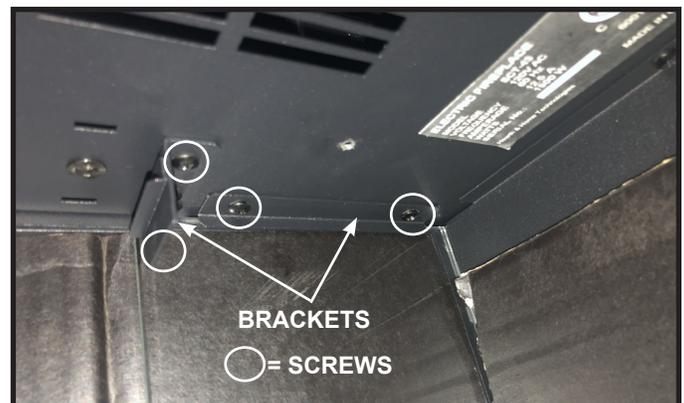

Figure 6 Side Glass Panel Removal
4. Remove screws (4) and brackets (2) holding each of the side panels. See Figure 6.
6. Replace the side glass panel, sliding the side glass panel as far back as possible, and reinstall the brackets, see Figure 6.